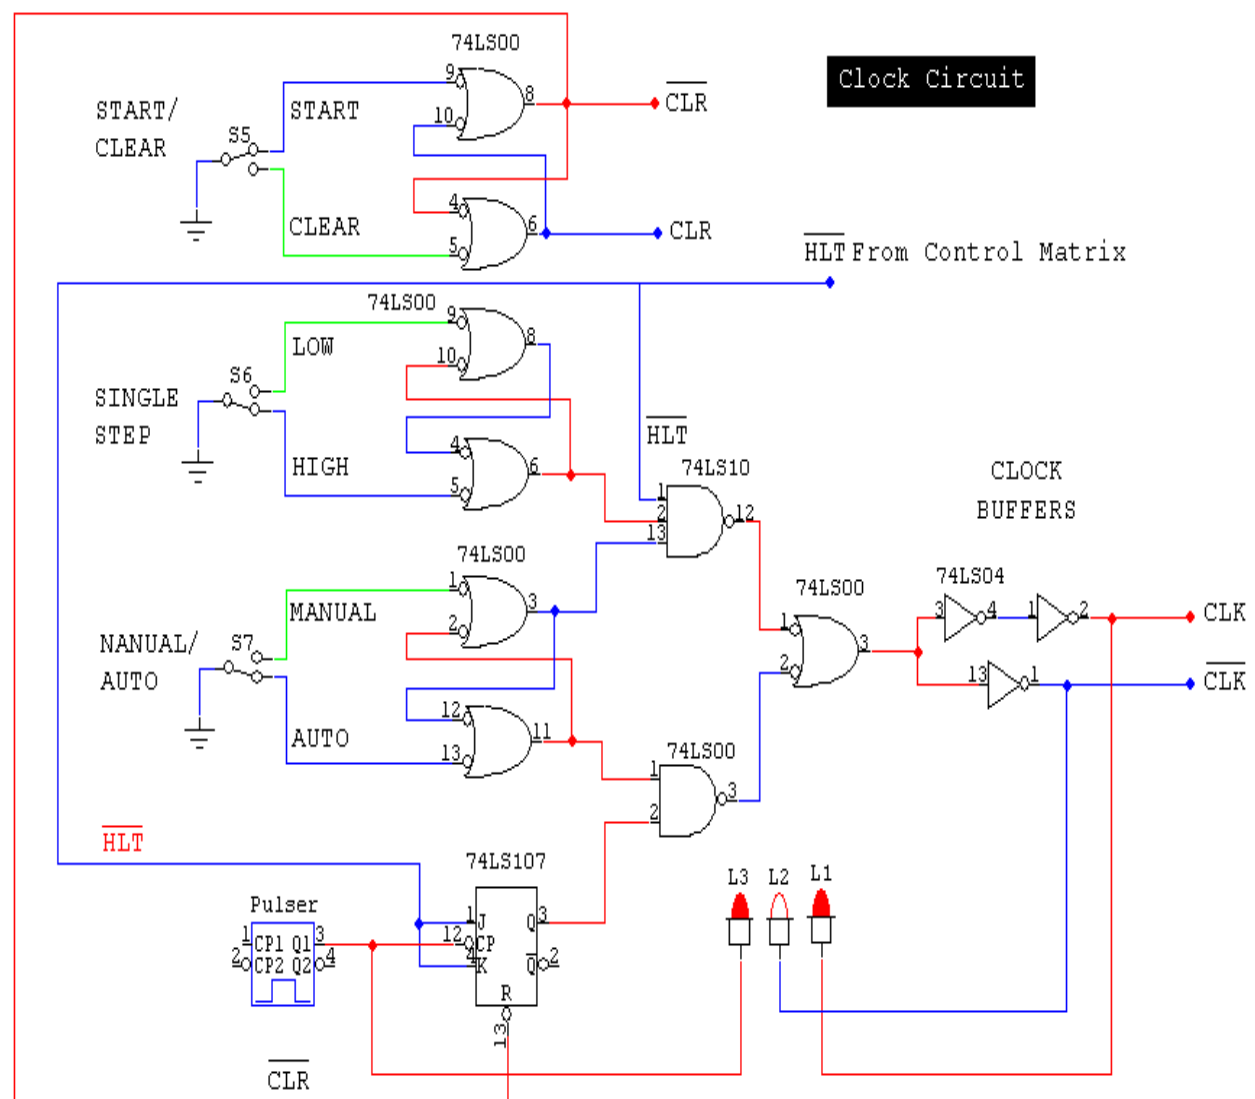

Figure 2-1: Clock Circuit for SAP – 1
The clock circuit is shown in the figure 2.1 which consists of mainly a 555 Timer and a J-K flip flop. 555 Timer produces a 2-kHz clock signal with a 75% duty cycle at its output. The J-K flip flop divides the signal down to 1-kHz and also produces a 50% duty cycle.
1. Connect the circuit as shown in the circuit diagram i.e. Figure 2-1.